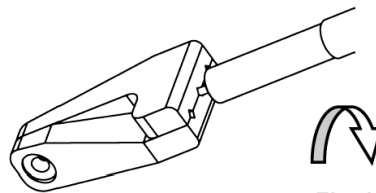

Fig. 3
3. Remove dielectric residue from center conductor exposed beyond cable outer conductor. Use care not to scratch surface by using an approved non-metallic center conductor cleaning tool or a Plexiglas scraper with squared or serrated edge works well, Figure 3. Repeat steps 2 and 3 for other cable end.